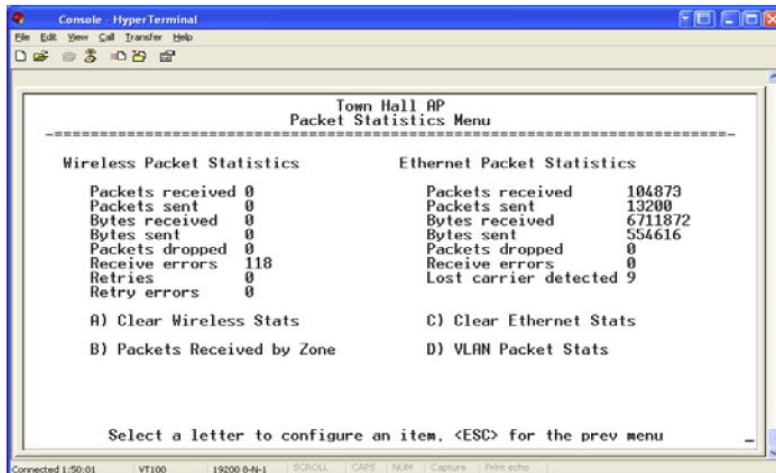

Figure 2-54. Sample Packet Statistics Menu
- **Wireless Packet Statistics** (when VLAN is shown)—A screen almost identical to Figure 2-53 is shown, except that option D (VLAN Packet Stats) appears as in Figure 2-54 below.